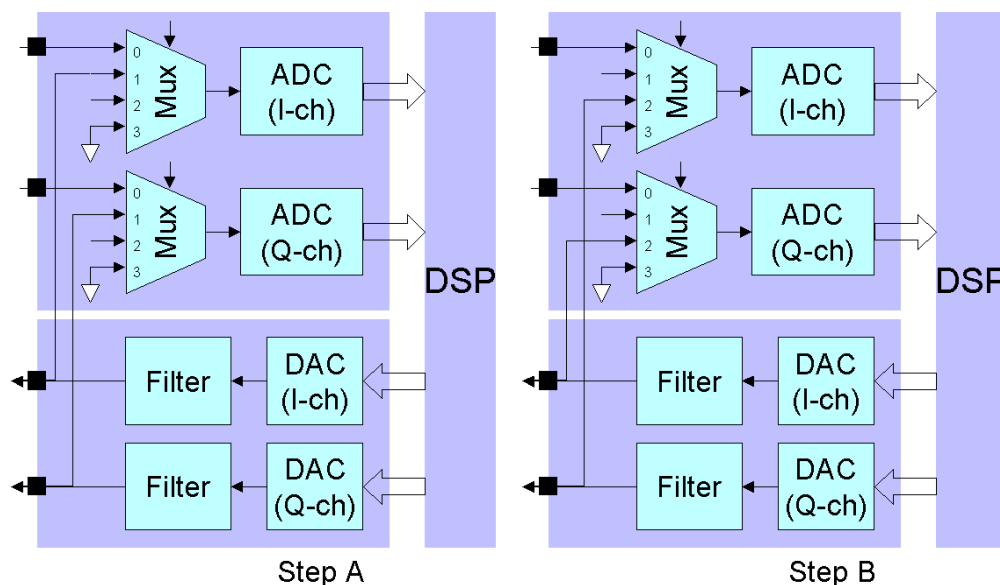

Figure 151 Downlink RX and Up-link TX Gain Mismatch Measurement (A) I/Q TX connect to I/Q RX (B) I/Q TX connect to Q/I RX
- A. The uplink (both in GSM and WCDMA mode) I-channel output are connected to the downlink I-channel input, and the uplink Q-channel output are connected to the downlink Q-channel input. This can be achieved by setting ISEL [1:0] = '01' and QSEL [1:0] = '01' (shown in **Figure 151 (A)**).
- B. The uplink (both in GSM and WCDMA mode) I-channel output are then connected to the downlink Q-channel input, and the uplink Q-channel output are connected to the downlink I-channel input. This can be achieved by setting ISEL [1:0] = '10' and QSEL [1:0] = '10' (shown in **Figure 151 (B)**).